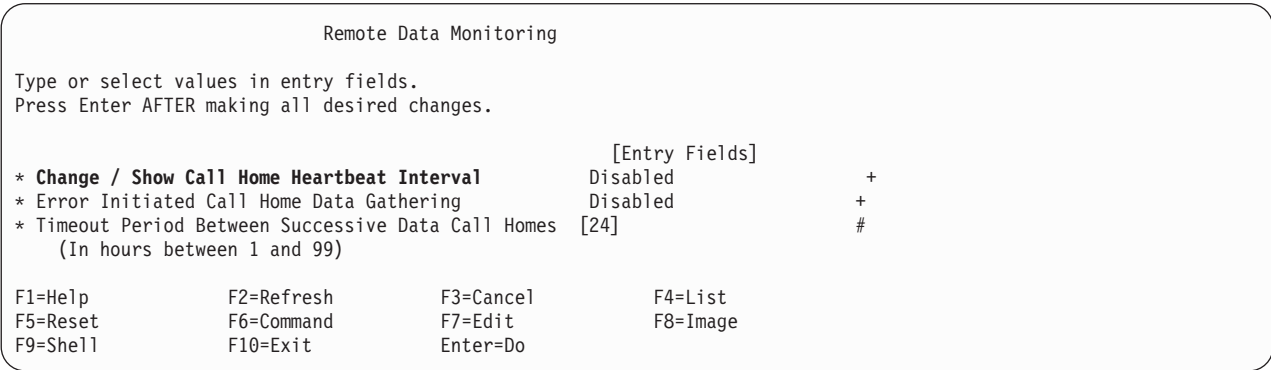

Figure 2-131. Remote Data Monitoring Menu – Change / Show Call Home Heartbeat Interval
- At Figure 2-130 on page 2-93, select **Remote Data Monitoring**, and press **Enter**. Figure 2-131 on page 2-93 displays.
4. At Figure 2-131, select **Change / Show Call Home Heartbeat Interval**, and press **Enter**.
- Attention:** Select the illustrated line item only at **Figure 2-131**. No other menu display items are applicable for this process.